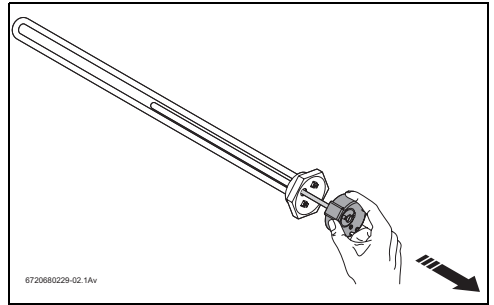

Fig. 4
- ▶ Remove the thermostat from the heating element (→ Fig. 4).